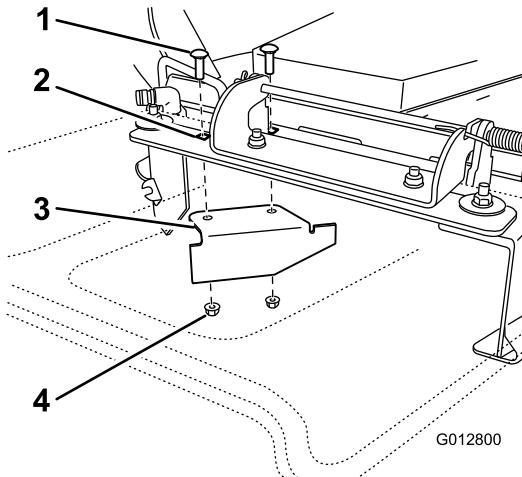

**Figure 34**
11. Remove the two lock nuts (5/16 inch) to securing the welded posts of the right baffle to the top of the mower deck at center and right of center positions (Figure 34). Remove the right baffle from the mower deck.